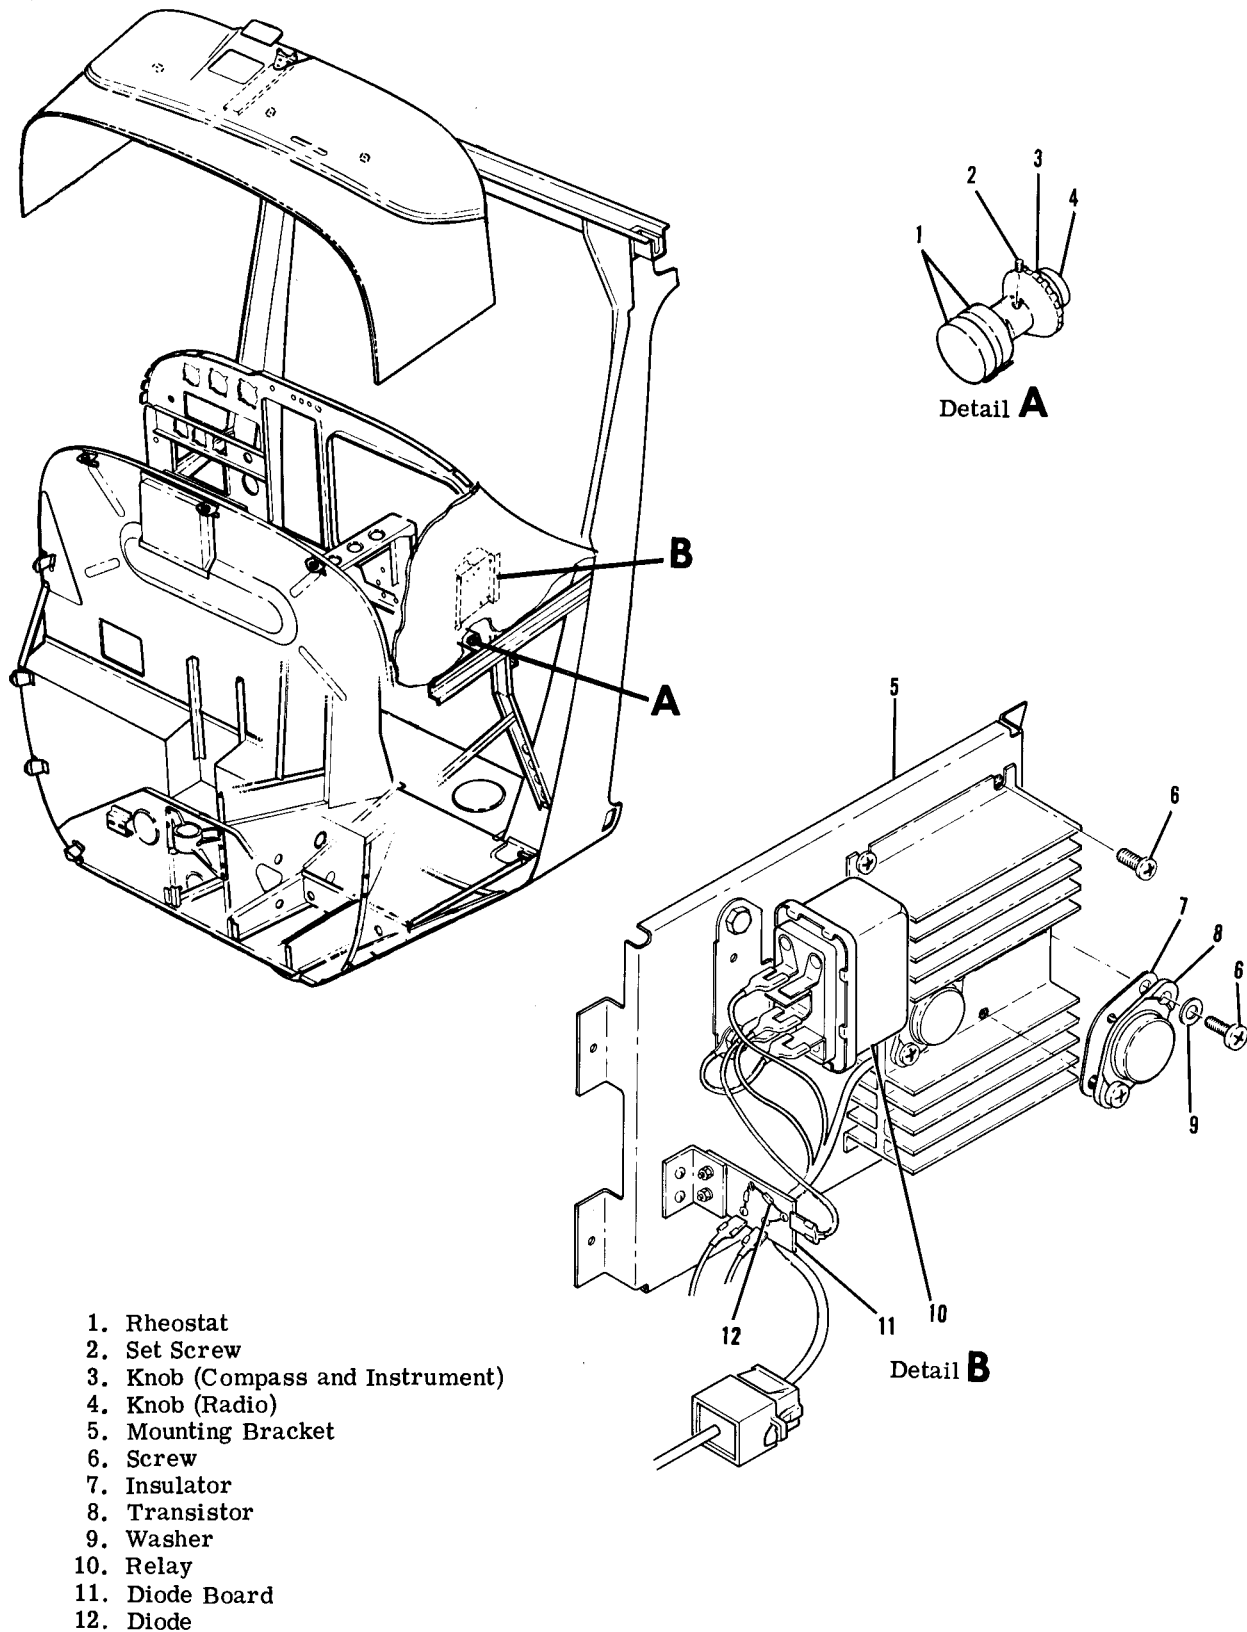

Figure 16-9. Transistorized Dimming
**16-77. REMOVAL AND INSTALLATION.** For removal and installation of transistorized dimming assembly, refer to figure 16-9.